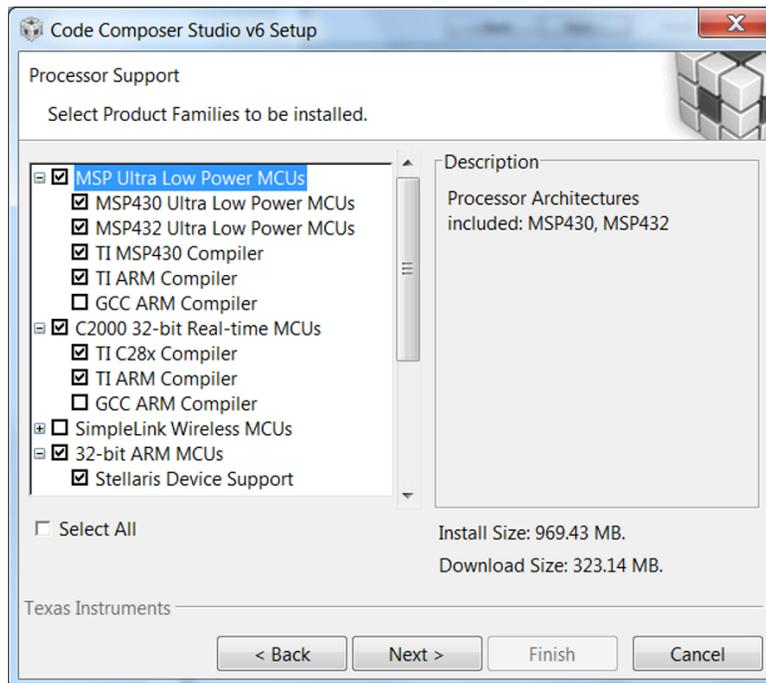

Figure 9. Processors Supported by CCS
- Step 4. Choose the processor architectures to install (see Figure 9).